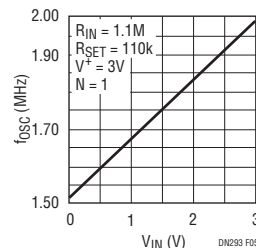

Figure 5. Output Frequency vs Input Voltage
Let  $V^+ = 3V$ ,  $f_{OSC(MAX)} = 2MHz$  for  $V_{IN(MAX)} = 3V$  and  $f_{OSC(MIN)} = 1.5MHz$  for  $V_{IN} = 0V$ . Solve for  $R_{IN}/R_{SET}$  by equation (3), yielding  $R_{IN}/R_{SET} = 9.9/1$ .  $R_{SET} = 110.1k\Omega$  by equation (4).  $R_{IN} = 9.9R_{SET} = 1.089M\Omega$ . For standard resistor values, use  $R_{SET} = 110k\Omega$  (1%) and  $R_{IN} = 1.1M\Omega$  (1%). Figure 5 shows the measured  $f_{OSC}$  vs  $V_{IN}$ . The 1.5MHz to 2MHz frequency excursion is quite limited, so the curve  $f_{OSC}$  vs  $V_{IN}$  is linear.